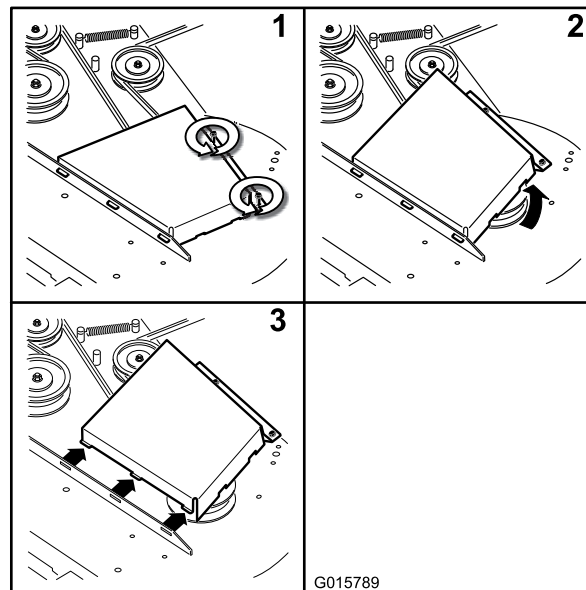

Figure 66
- Remove the belt covers (Figure 66).